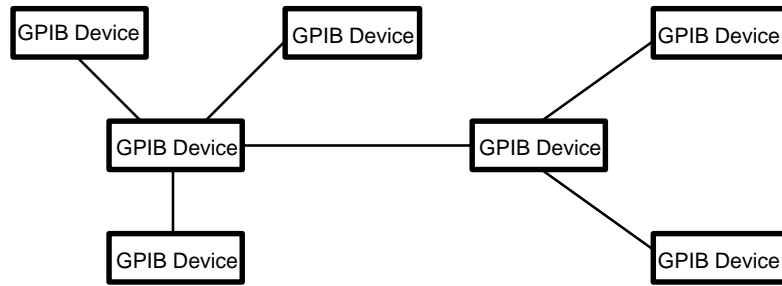

Figure 3-44: Typical GPIB Network Configuration
- There must be only one cable path from each device to each other device on your network (see Figure 3-44) and you must not create loop configurations.